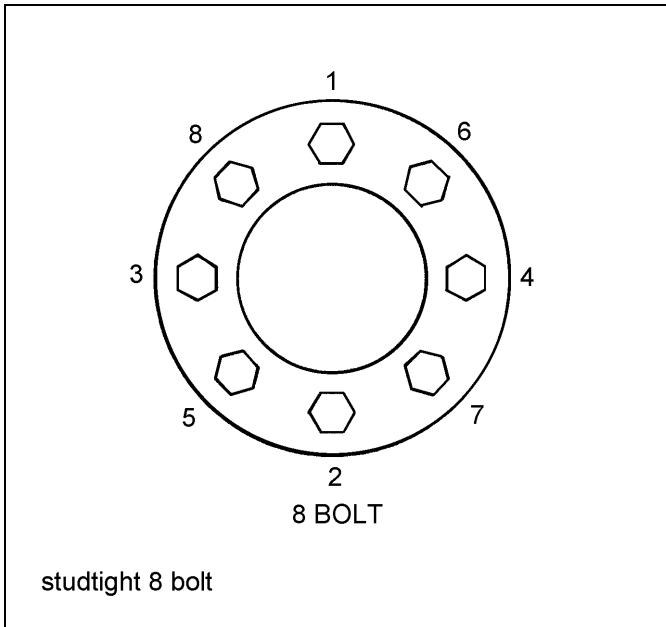

Figure 4-15: Stud Tightening Sequence
4. Install the flange nut and tighten to 50 foot-pounds using the sequence in **Figure 4-15**. Then tighten to full torque of 500 to 550 foot-pounds.